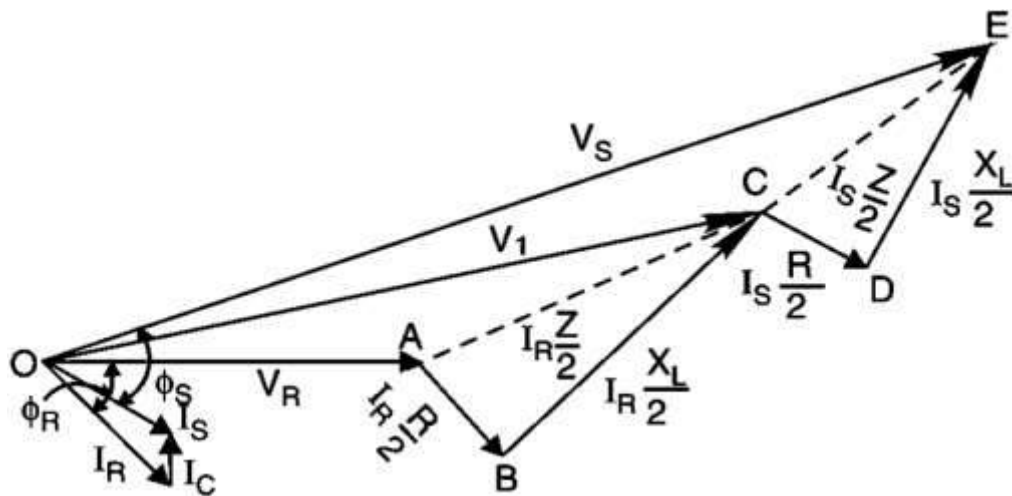

Fig. 30:
- The phasor diagram for the nominal T method is shown in figure 30.